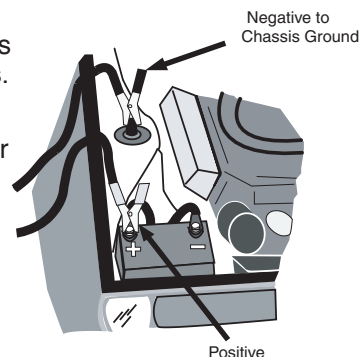

Figure 1
4. Determine which post of battery is grounded (connected) to the chassis. If the negative post is grounded to the chassis (as in most vehicles), see Figure 1 and instruction 5a. If the positive post is grounded to the chassis, see instruction 5b.